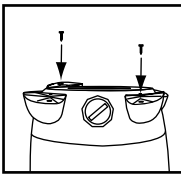

FIGURE 6
6. Secure with screws provided **FIGURE 6**.